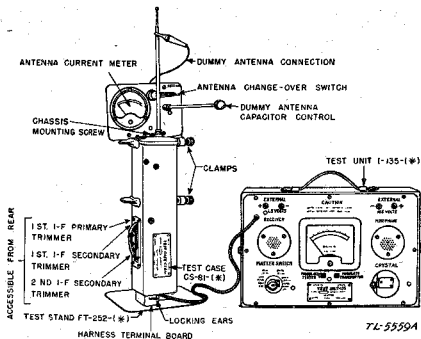

FIGURE 5.—Test equipment IE-17-(*)—set up.
51. **Test case CS-81-(*).**—As the tuning adjustments are inaccessible because of their location on the chassis, which is covered by the case or housing, a special housing is required to make these adjustments. (See fig. 5.) Test Case CS-81-(*) is similar to the radio set housing except for the holes that have been provided to permit access to the chassis adjustments. This apparatus permits tuning the set under conditions identical to those of normal operation. The presetting adjustments should not be made on the set without the test case being around the chassis, because the set would become detuned when inserted into the regular housing. This detuning or misalinement would result from the additional capacitance introduced into the circuit by the housing.
c. Next, clamp test case CS-81-(*) into test stand FT-252-(*) with the antenna end up, and the housing in such position that the change-over switch is opposite the left side of the operator as he faces the stand. (See fig. 5.) The upper clamp should grip the housing on the edges of the top cover. The lower clamp should not be made too tight, as the pressure may crack the housing.
g. The location of the receiver tuning adjustments on the radio chassis are shown in figures 5 and 11. With the insulated screw driver, turn the receiver antenna adjustment screw clockwise. Notice the effect of this adjustment on the output meter reading. If the meter reading *increases*, continue to tighten the screw until a maximum reading is obtained. If the reading *decreases*, turn the screw counterclockwise until a maximum reading is obtained. Be careful
d. The transmitter is now ready for alinement. Turn the **MASTER SWITCH** on test unit to **PWR. AMP.** position. Adjust the *transmitter tank adjustment* screw for *minimum* current reading on the meter in the test unit. The normal reading in this position is approximately 7 milliamperes. See figures 5 and 12 for location of *transmitter tank adjustment*. *Be sure to depress the press-to-talk switch with one hand during this operation.*
c. With the MASTER SWITCH of the test unit on OUTPUT 60 V. A. C. (modulate tester switch ON), adjust the second i-f secondary trimmer for maximum output, next the first i-f secondary trimmer, and the first i-f primary trimmer last. (See fig. 5.) All i-f trimmers are adjusted for peak output meter reading. As the i-f trimmers are alined, loosen the signal coupling to the receiver antenna so the maximum audio output reading of the meter is not over 10 volts. This is necessary to prevent overloading the receiver and consequent poor alinement of the i-f circuits. The above alinement adjustments must be performed very carefully for good results. Go over the alinement a second time.